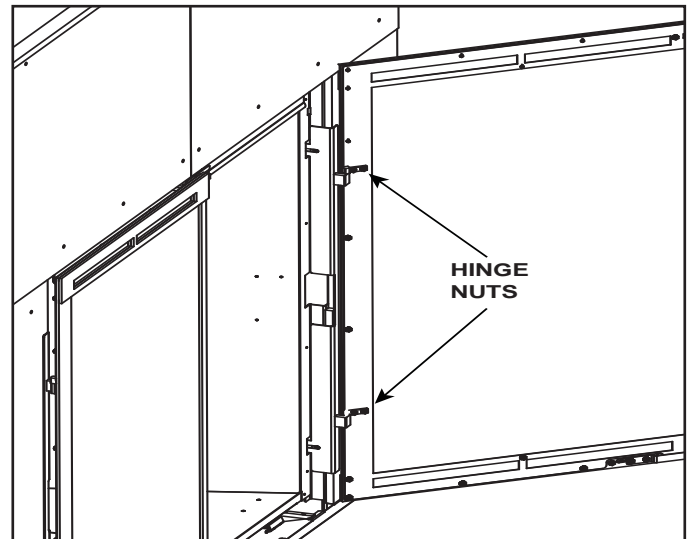
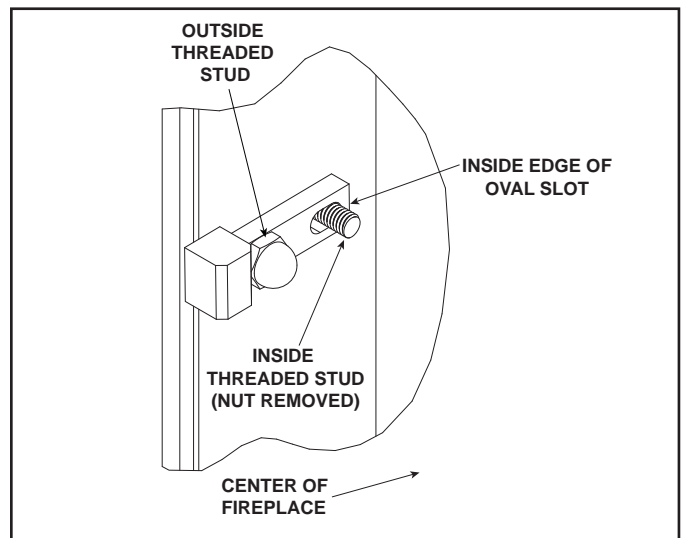

Figure 10. Hinge Adjustment - (Right Door Shown)
Figure 11. Top Right Door Hinge - Reverse View
The receiver hinges on the back side of the doors can be adjusted to create uniform spacing between the doors from top to bottom. Before adjusting receiver hinges, verify that the inside threaded stud on the door is touching the inside edge of the oval slot in the receiver hinge as shown in Figure 10 and Figure 11.
**NOTE:** The nut holding the inside threaded stud in place on the receiver hinge has been removed in Figure 11 for illustration purposes.